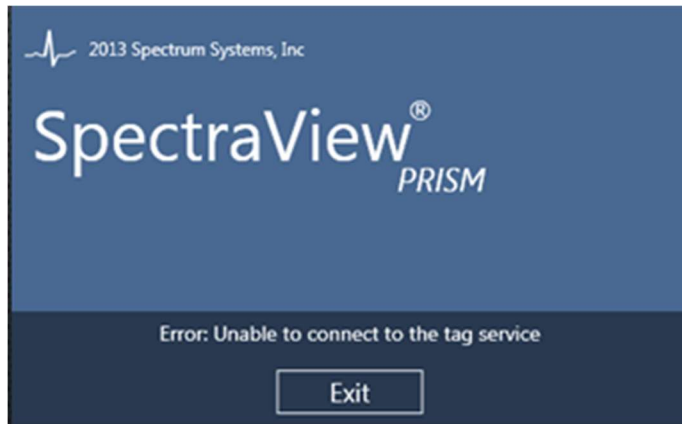

Figure 3-3 Tag Service Launch Error
- c. The *Tag Service* error in **FIGURE 3-3** occurs when the application cannot connect to the tag service, or encounters a *Tag Service* error or misconfiguration.